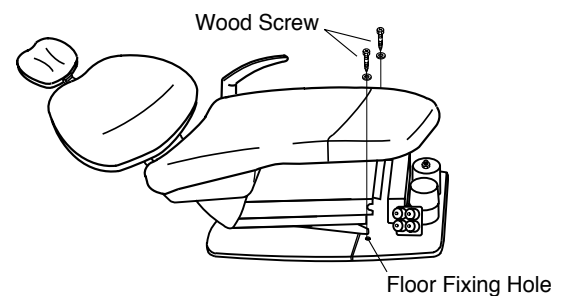

Fig.3-7-7 Fixing Base to Floor
(10) Fix the chair base to the floor by two wood screws or anchors **(Fig.3-7-7)**